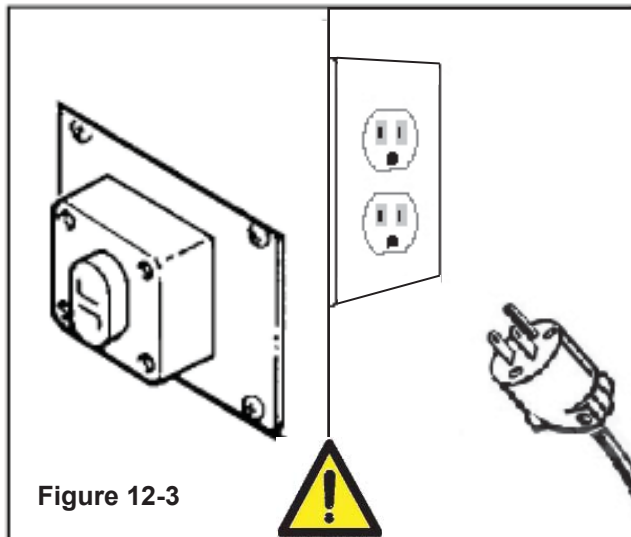

Figure 12-3
Push the main rotary switch ON (I) after the EMERGENCY BUTTON is released (Figure 12-3).
Before carrying out any cleaning or maintenance operation stop the machine by turning the OFF (O) rotary switch on the main and disconnect the electric power (Figure 12-3).